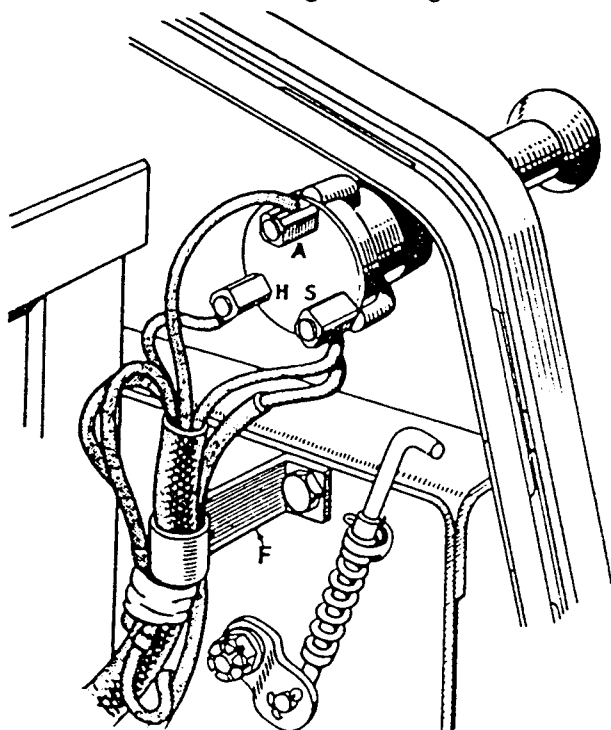

FIG. 13
"G1" to one of the existing bolts securing starter switch, and then together with cables in main harness, hold in position at the side of battery and secure in this position by means of clip "F" as shown in Fig. 13. Take care to see that this cable does not foul the hood catch.
- (2) Connect up cables to lighting switch as follows, with reference to Fig. 13. Two red leads, one from side lamps and one from change-over switch to "S" terminal.